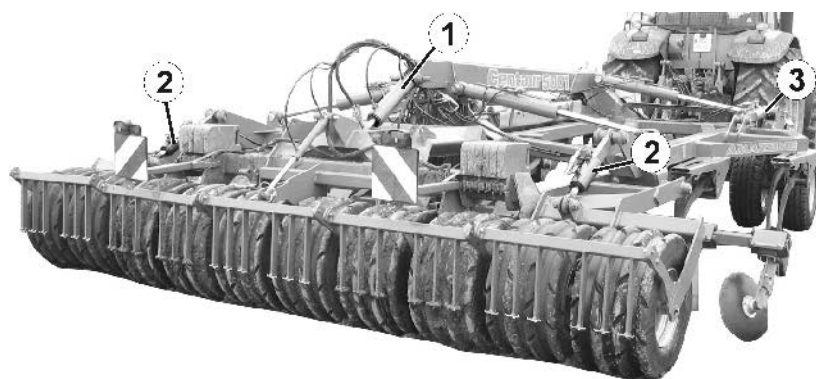

Fig. 52
- Using the running gear hydraulic cylinder (Fig. 52/1)
- Using the hydraulic cylinders of the outer rollers (Fig. 52/2) (**Centaur 4001 / 5001**),
- Using the hydraulic cylinders of the feeler/support wheels (Fig. 52/3) (optional).